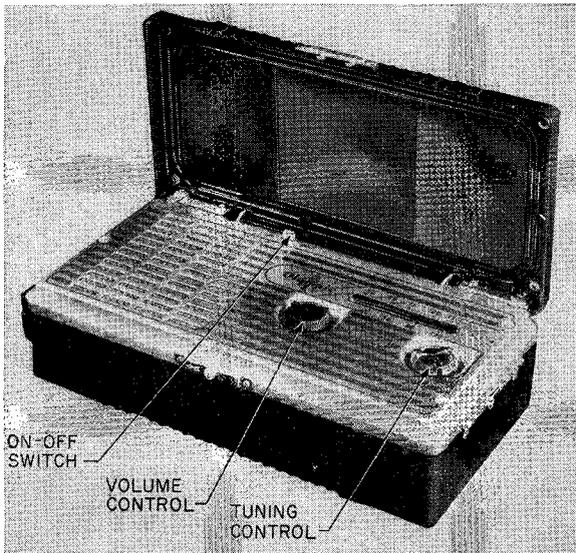

FIG. 19-4. Olympic Model 489 battery portable receiver.
**Complete schematic diagram of a typical battery portable.** The Olympic model 489 battery portable receiver is pictured in Fig. 19-4. Its complete